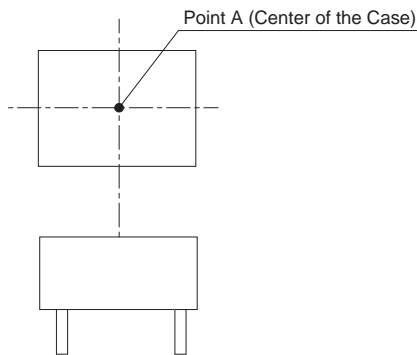

Fig.7.1 Temperature Measuring Point on the case (Top View)
■Please have sufficient ventilation to keep the temperature of point A in Fig.7.1 at Table7.1 or below. Please also make sure that the ambient temperature does not exceed 85°C.